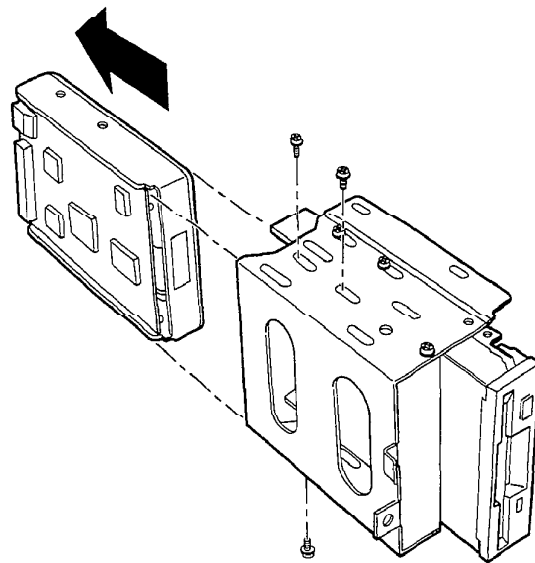

Figure 2 Remove the Hard Disk
- 11. Remove the hard disk from the carrier. See Figure 2 for details.